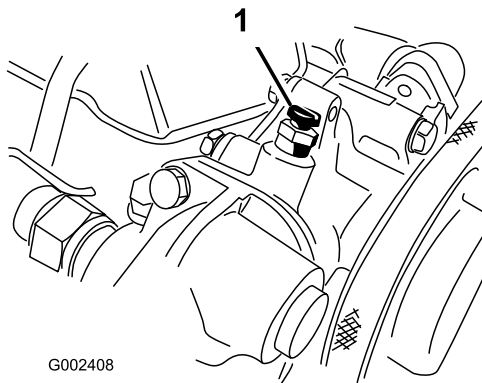

Figure 65
6. Open the bleed screw on top of the water pump (Figure 65).